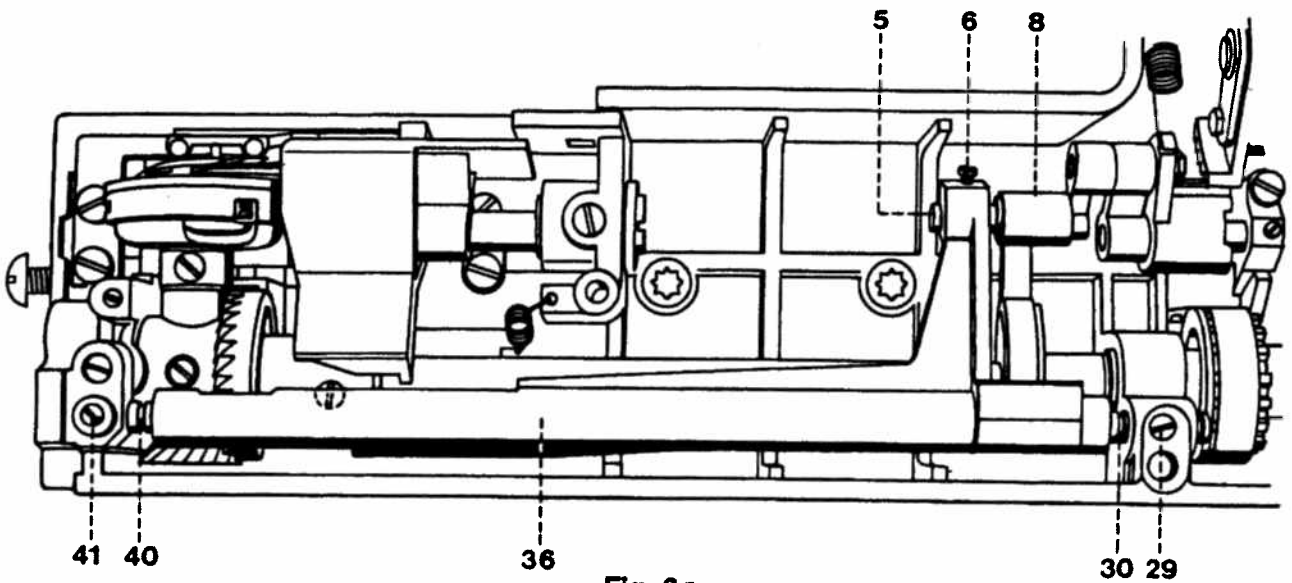

Fig. 2a
- Loosen the two screws 29 and 41 (fig. 2a).
- Loosen screw 8a (fig. 2a).